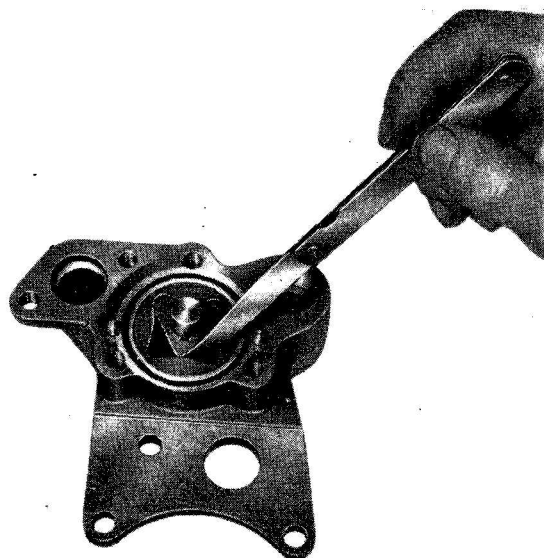

Fig. 9
3. The clearances of a new pump are given and are checked as shown in Figs. 9, 10 and 11.